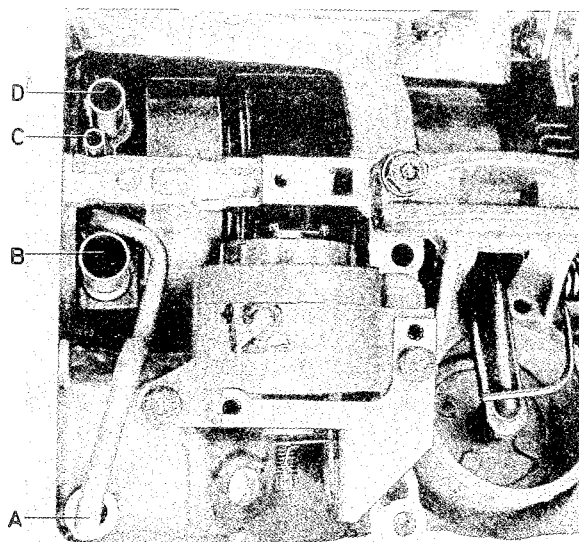

Fig. 4-113. Location of oil tubes, front of gearbox
24. Fit the oil tubes for the pump and converter on the pump body, see Fig. 4-113. Do not forget the O-ring for the pump inlet tube.